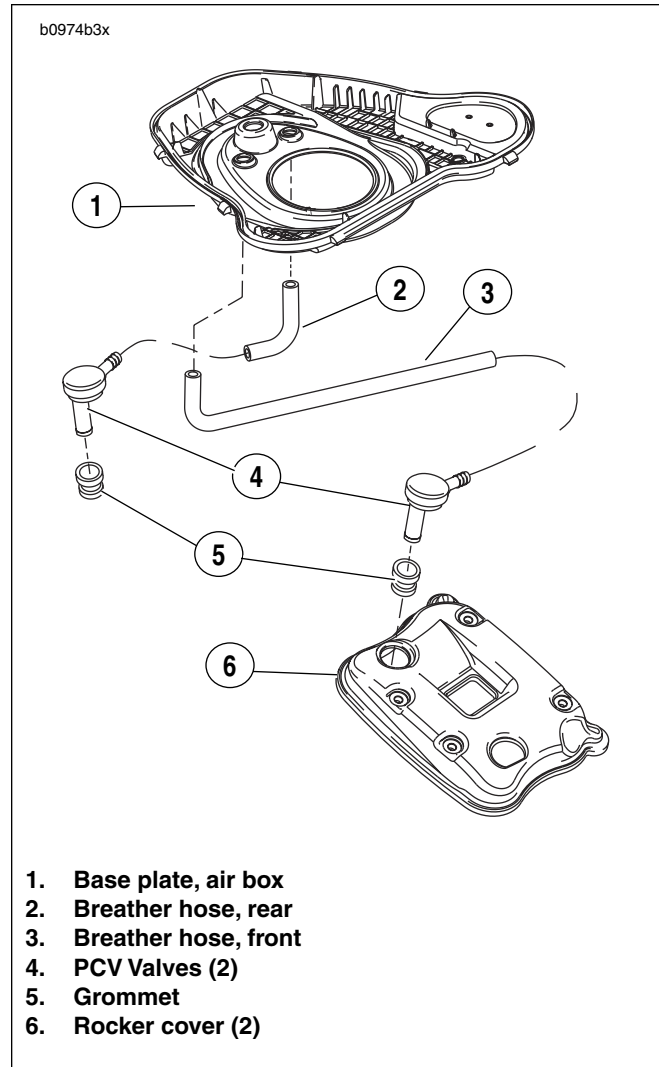

Figure 3-115. Crankcase Breathing System,
See Figure 3-115. Air is allowed to escape the rocker boxes by exiting the positive crankcase vent (PCV) valves (4) located on top of the rocker boxes. From the PCV valves the air enters the crankcase breather hoses (2, 3). The crankcase breather hoses route through the air cleaner base plate (1) to the air box where it is directed inside the air filter element and back into the engine.